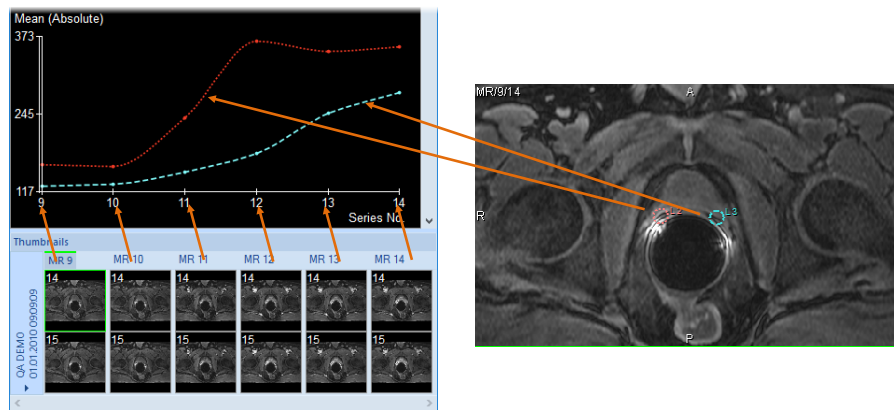

Figure 358 – Analysis calculated on the MR9 – MR14 series, ROIs defined on the primary image
- **Single-dimensional image series** - the images of the same spatial positions across all the available series within the study are searched for (see Figure 358). This, for example, allows to evaluate the time course of the saturation of the contrast agent on a study composed of multiple image series, each of them scanned at a different time (though with the images on the same positions, see Figure 358). The navigation among the images in the analysis is performed using the series number when the quantitative analysis is created across series; when the quantitative analysis is created within a single image series, the slice number is used for navigation.